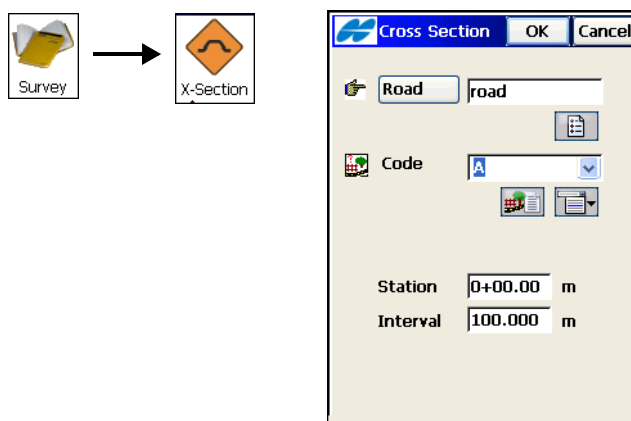

Figure 8-47. Cross Section
1. To start working, tap **Survey ► X-Section** (Figure 8-47 on page 8-44).
2. On the **Cross Section** screen (Figure 8-47 on page 8-44), select or enter the following parameters for the station where the survey will be performed, then tap **OK**: the road name, the code and attributes of the center line, the station where the cross section is surveyed, and the interval distance to the next station. If the road has not been created, define the plane.